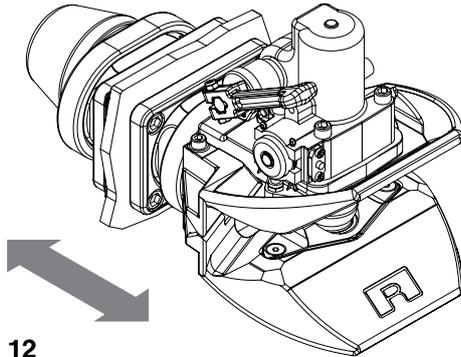

Fig. 12
- Move coupling head (not funnel) vigorously in direction of travel when unhitched (see Fig. 12):